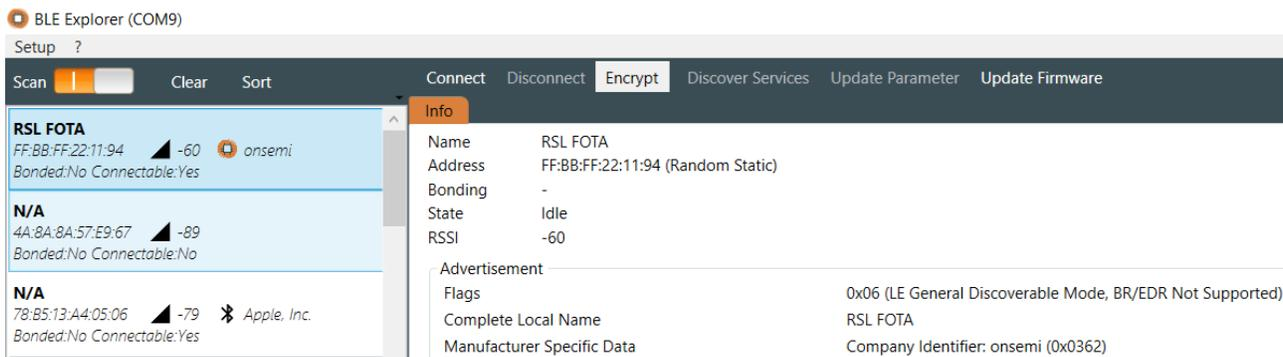

Figure 9. FOTA Running
- Connect FOTA\_GPIO (GPIO1) to ground. After a few seconds, you can see the name **RSL FOTA** on the RSL BLE Explorer, as shown in the "FOTA Running" figure (Figure 9). After checking the name **RSL FOTA**, disconnect FOTA\_GPIO from ground.